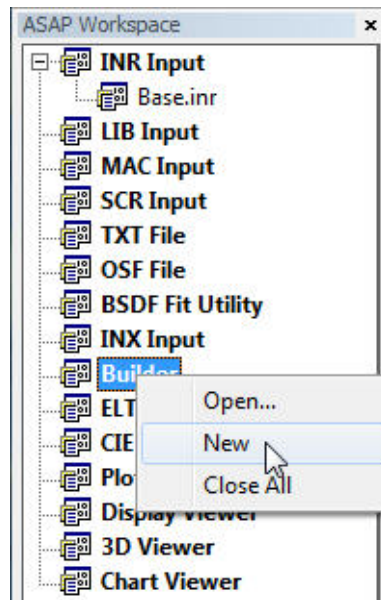

Figure 20 Creating a new Builder window on ASAP Workspace
- 11 On ASAP Workspace, right-click the **Builder** and click **New** to create a new Builder window. See Figure 20.